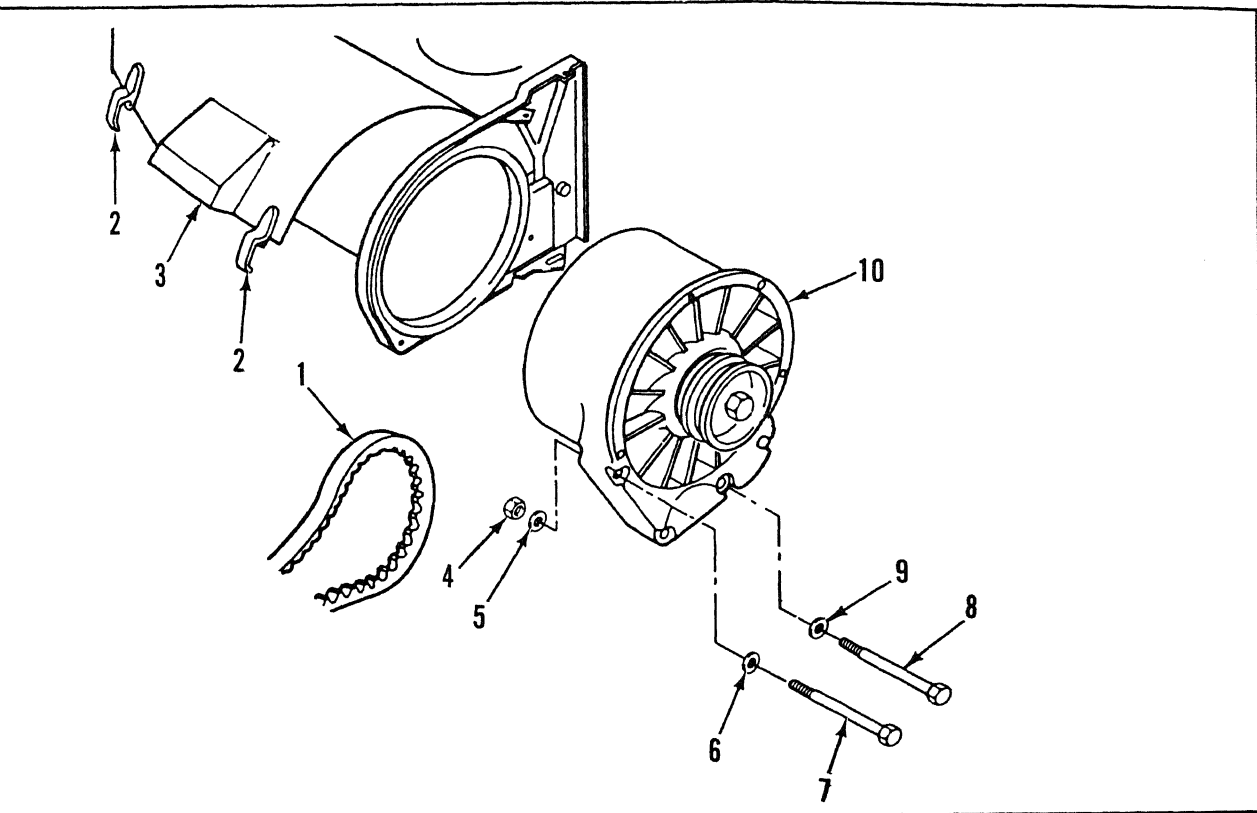
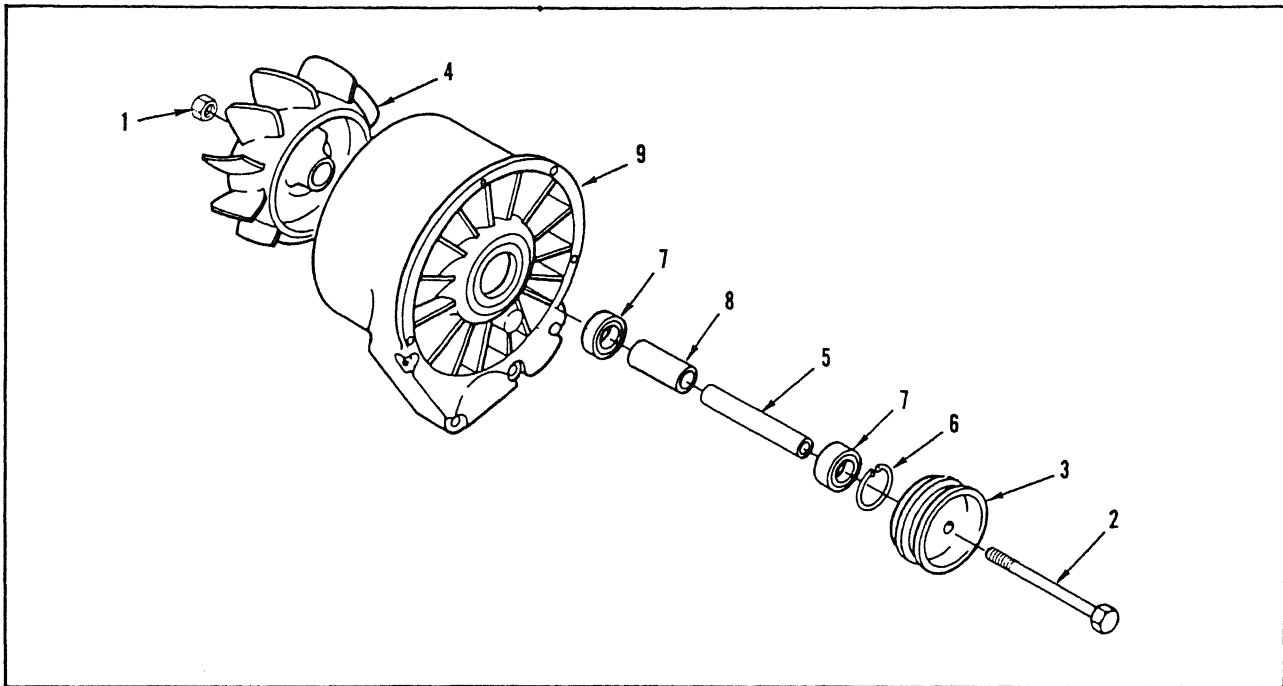

Figure 5-49. Cooling Fan, Removal/Installation.
Figure 5-50. Cooling Fan, Assembly/Disassembly
a. Removal (figure 5-49).
- (1) Remove V-belt guard (para 4-17).
- (2) Loosen V-belt tension and remove V-belt (1).
- (3) Loosen clips (2) and open air cowling (3).
- (4) Remove nut (4), washers (5 and 6), and bolt (7).
- (5) Remove bolts (8) and washers (9); remove cooling fan (10).
c. Disassembly (figure 5-50).
- (1) Place cooling fan on clean work bench for disassembly.
- (2) Remove nut (1) and bolt (2).
- (3) Remove V-belt pulley (3), roller (4) and bearing shaft (5).
- (4) Remove circlip (6); then, push bearings (7) and bushing (8) from jacket (9).
g. Assembly (figure 5-50).
- (1) Perform work on clean work bench.
- (2) Use new bearings (7) and fill them with special high melting point bearing grease.
- (3) Install one bearing (7) into jacket (9) with enclosed side to front.
- (4) Insert bearing shaft (5) in bearing and slide bushing (8) on shaft.
- (5) Half-fill space between bushing and jacket wall with special high melting point bearing grease.
- (6) Press remaining bearing (7) into jacket (9) so that face opposite closed side seats against bushing (8).
- (7) Install circlip (6) into groove.
- (8) Install roller (4), with wide flange facing upwards, into jacket (9).
- (9) Mount V-belt pulley (3) on opposite side of roller (4) and insert bolt (2).
- (10) Install nut (1), finger-right.
- (11) Grip nut in a vice and, using angle-of-turn indicator, tighten and lock down bolt in accordance with Appendix F.
h. Installation (figure 5-49).
- (1) Align cooling fan (10) to mounting holes, and install washers (9) and bolts (8).
- (2) Install bolt (7), washers (6 and 5), and nut (4).
- (3) Close air cowling (3) and fasten clips (2).
- (4) Install and properly adjust V-belt (1) (para 4-18).
- (5) Install V-belt guard (para 4-17).